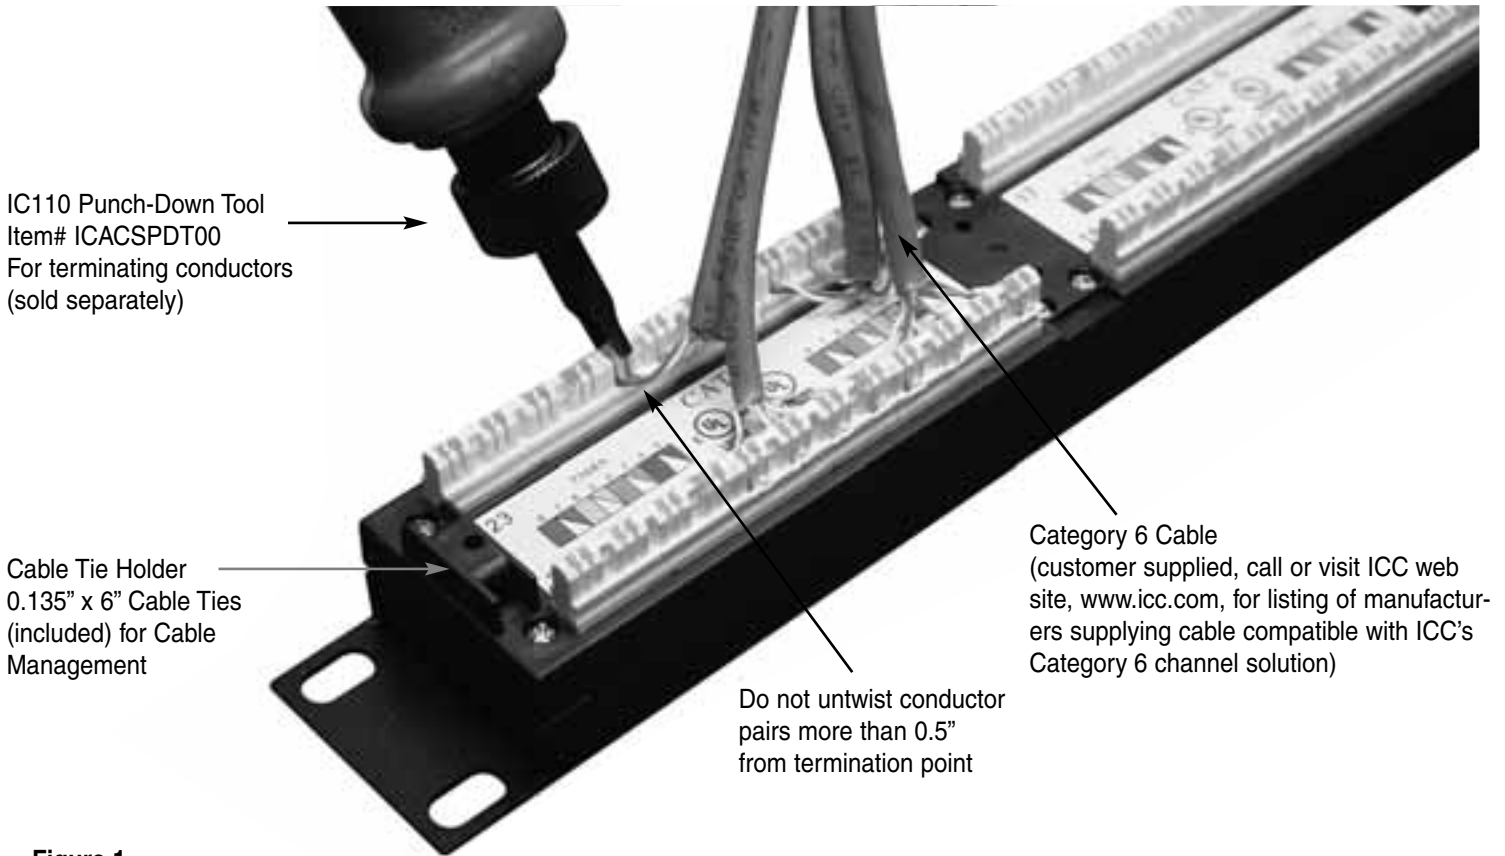

Figure 1.
- 4) **IMPORTANT: Press the conductors firmly into the proper 110 channel according to the color coded label, maintaining less than 0.5" of untwist.(See Figure 1 & 2)**